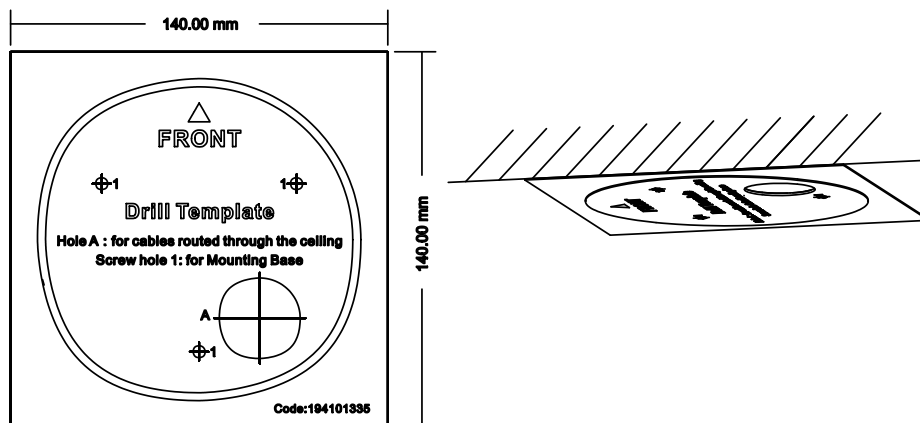

Figure 2-14 Attach the Drill Template
3. Drill a cable hole in the ceiling according to the circle A on the template if you want to route the cables through the ceiling. Pull out the cable slot cover if you want to route the cables on the surface of the ceiling, as shown in the Figure 2-14.